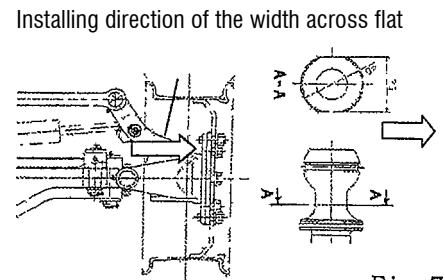

Fig. 7
- Precaution ①: Do not apply lubricant like grease between the ball stud and the housing.
- Precaution ②: Match the direction of the width across flat section of the flange of the stud to the right angle direction to the tire (in parallel to the tie-rod). (Refer to Fig. 7.)